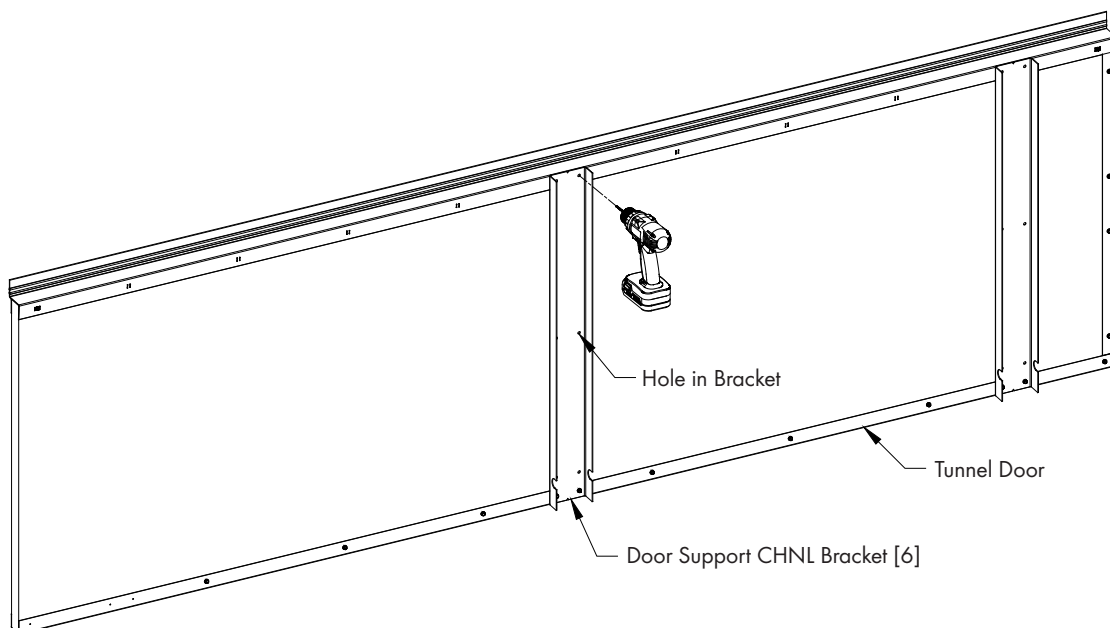

Figure 16
Drill a $\frac{3}{32}$ " hole through the Tunnel Door using the Holes in the Door Support CHNL Bracket [6] as a guide. See Figure 16. The center and right brackets have (6) holes to be drilled.